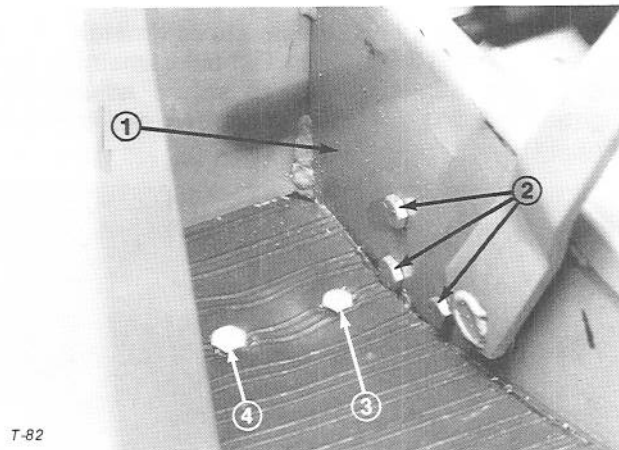

Figure 9
4. Align hinge plate with holes on inside of vertical wall, insert 5/16-18 x 3/4" hex head capscrews through from outside of wall and secure hinge plate to wall with flange nuts against hinge plate (Fig. 9).
8. Insert a 5/16 x 3/4" capscrew through the inside hole of angle support from top of floor plate and secure with flange nut (Fig. 9).
10. Install a 3/8 x 3" Machine screw down through the floor board, angle support and slotted hole in jackshaft bearing support and install flat washer and two hex nuts. Do not tighten the nuts at this time (Fig. 9).